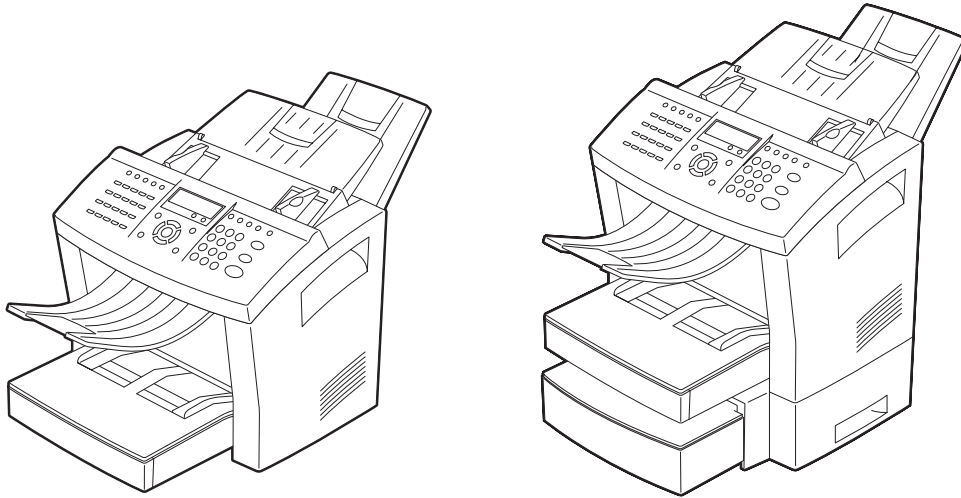

Fig. 10-25
- 17) Outside of the machine (P.10-16 "Fig. 10-25")